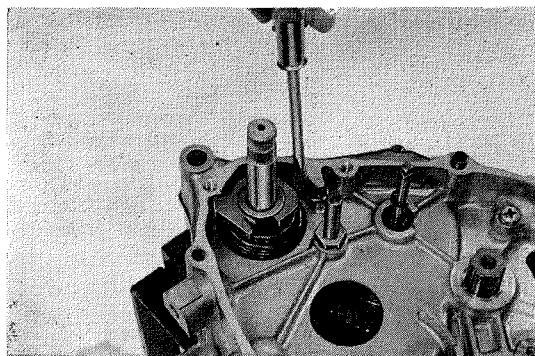

Fig. 47 Kick starter spring & retainer removal
2. Remove the kick starter spring with screw driver and pull out the kick starter spring and retainer. (Fig. 47)